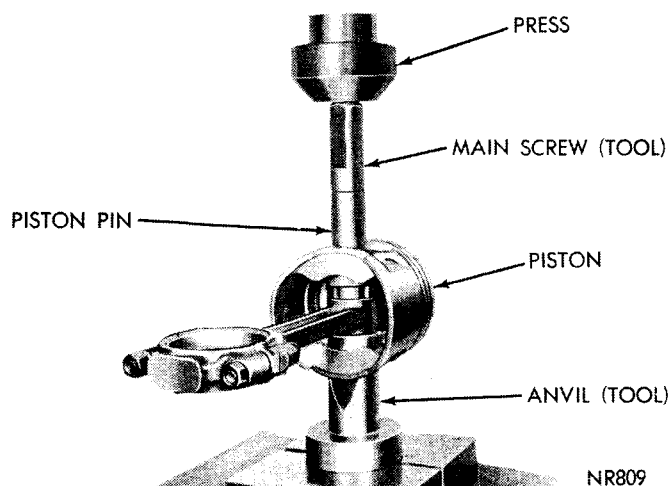

Fig. 34—Installing Piston Pin
(8) Install main screw and piston pin in piston then install nut on main screw to hold assembly together. Place assembly on a press (Fig. 34).
(9) Press piston pin in the piston until pin bottoms on pilot, properly positioning pin in connecting rod.
(10) Remove tool and arrange tool parts and piston assembly in the same manner, as shown in (Fig 34) for measuring pin fit.